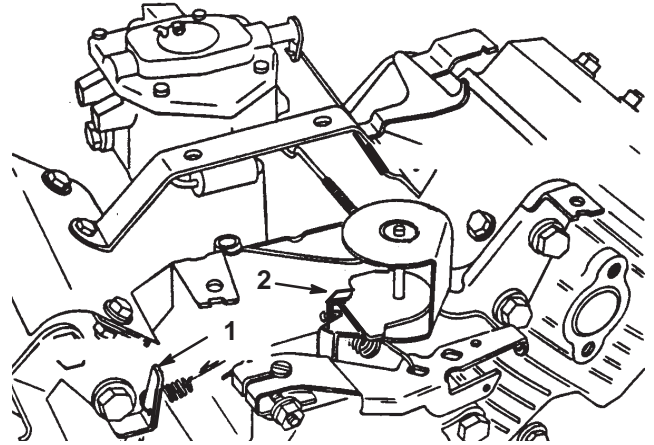

Figure 47
3. Bend the governed idle spring anchor tang (Fig. 47) to attain an idle speed of 1450 ± 50 RPM. Check the speed with a tachometer.
5. Move the throttle control to the Fast position. Bend the high speed spring anchor tang (Fig. 47) to attain a high speed of 2850 ± 50 RPM.